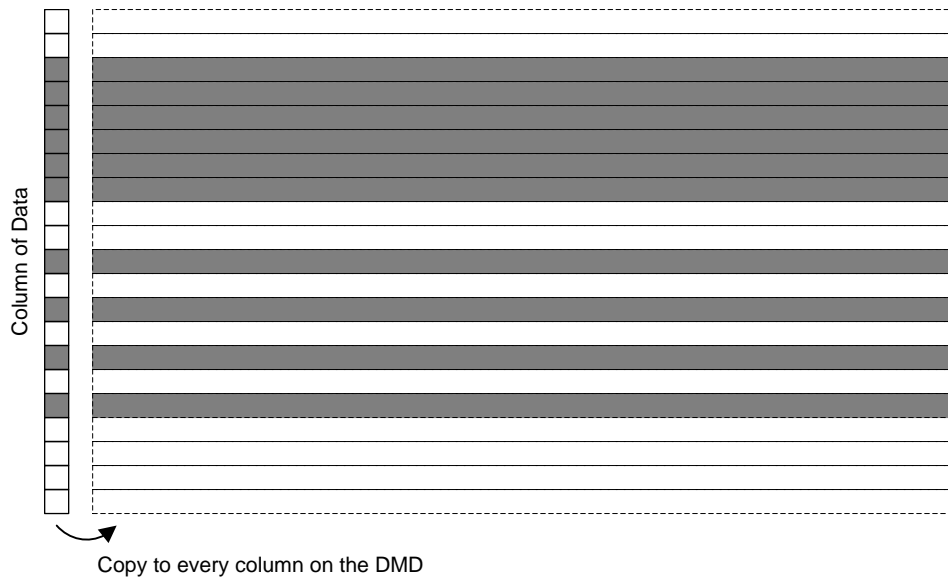
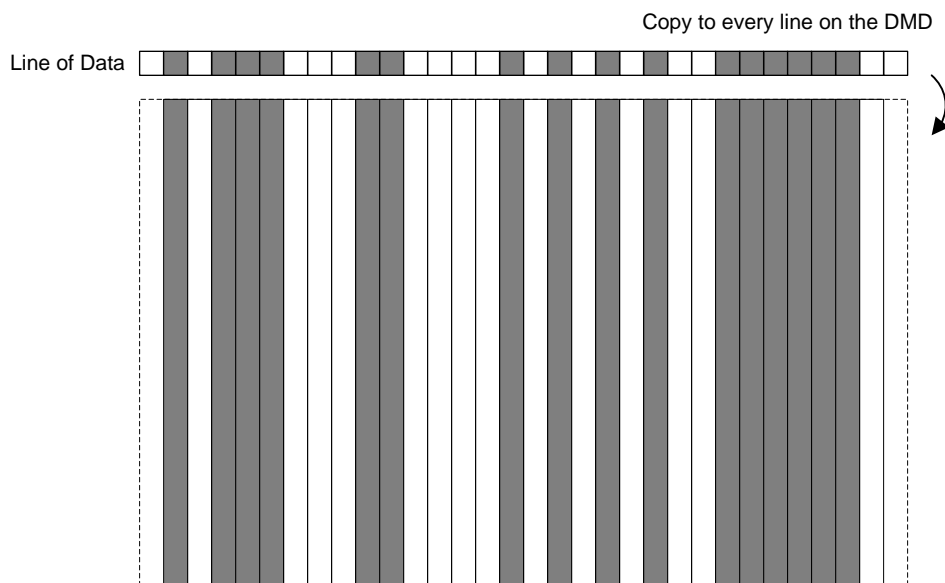

Figure 19. Column Replication
Figure 20. Row Replication
- Internal pattern mode only supports 1D patterns i.e the pattern data is same across the entire row or column of the DMD (Figure 19, Figure 20).